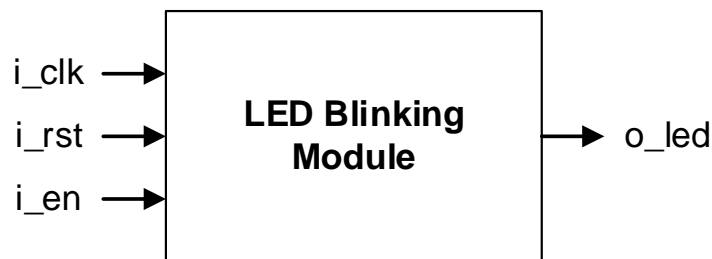

Figure 1. LED Blinking Module
- 1) Design an LED blinking module (Figure 1) with SystemVerilog.